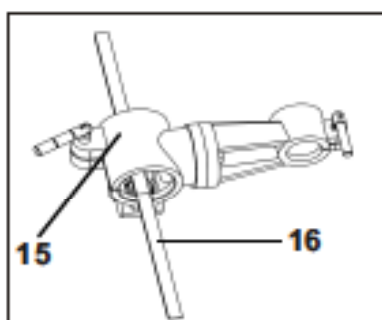

Fig 3a
1. Place the Table Support (15) over the Rack (16). (Fig 3a)